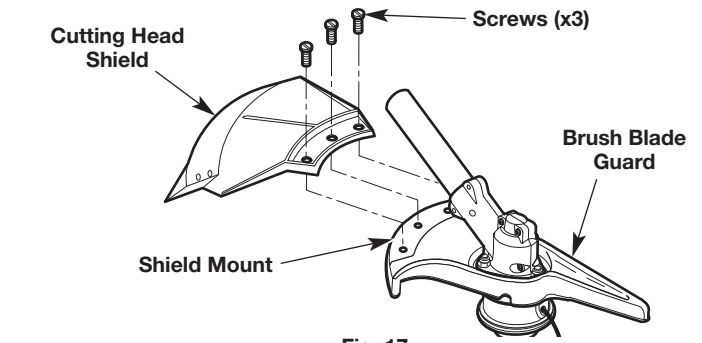

Fig. 17
1. Place the cutting head shield over the shield mount surface on the brush blade guard (Fig. 17).
2. Insert the screws (x3) through the screw holes on the cutting head shield (Fig. 17).
1. Unscrew the screws (x3) on the cutting head shield with a Phillips screwdriver (Fig. 17).